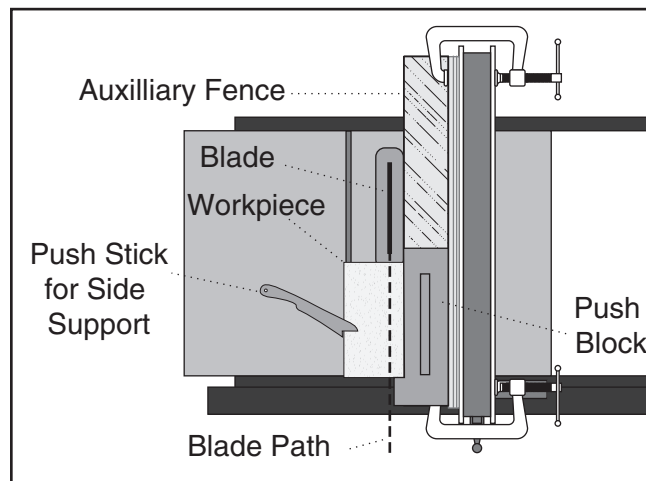

Figure 85. Push block in position to push workpiece through blade.
3. Place workpiece 1" behind blade and evenly against table and auxiliary fence (see **Figure 85**).